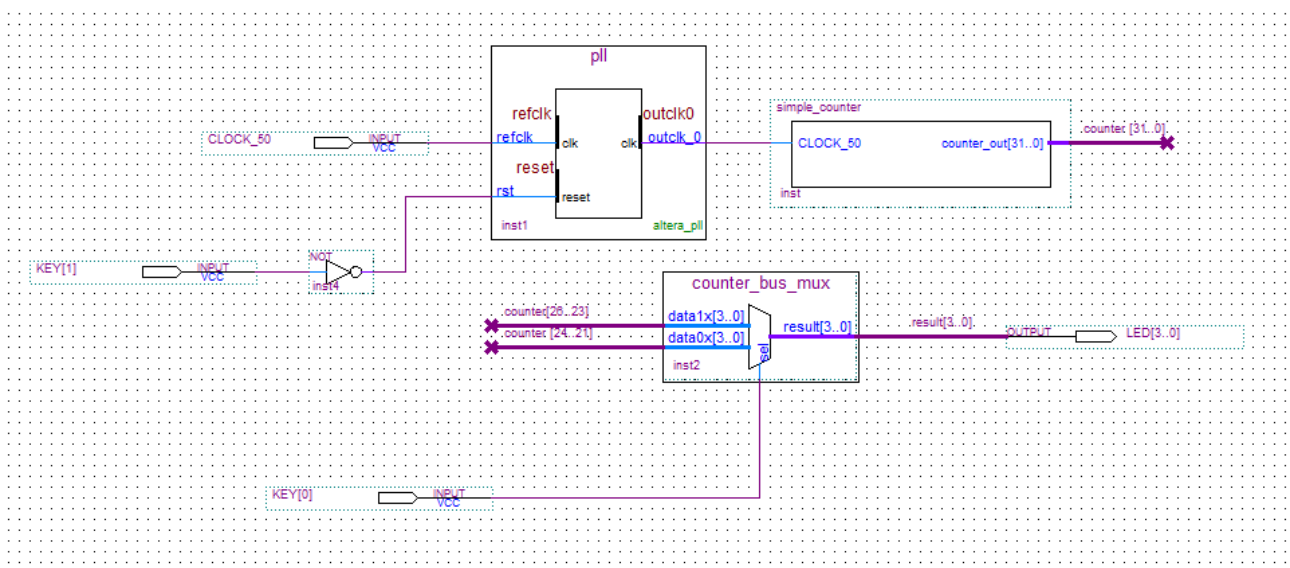

Figure 3-31 Place the not pin
27. Place this not pin so that it connects to KEY[1] and the pll rst (see **Figure 3-31**).